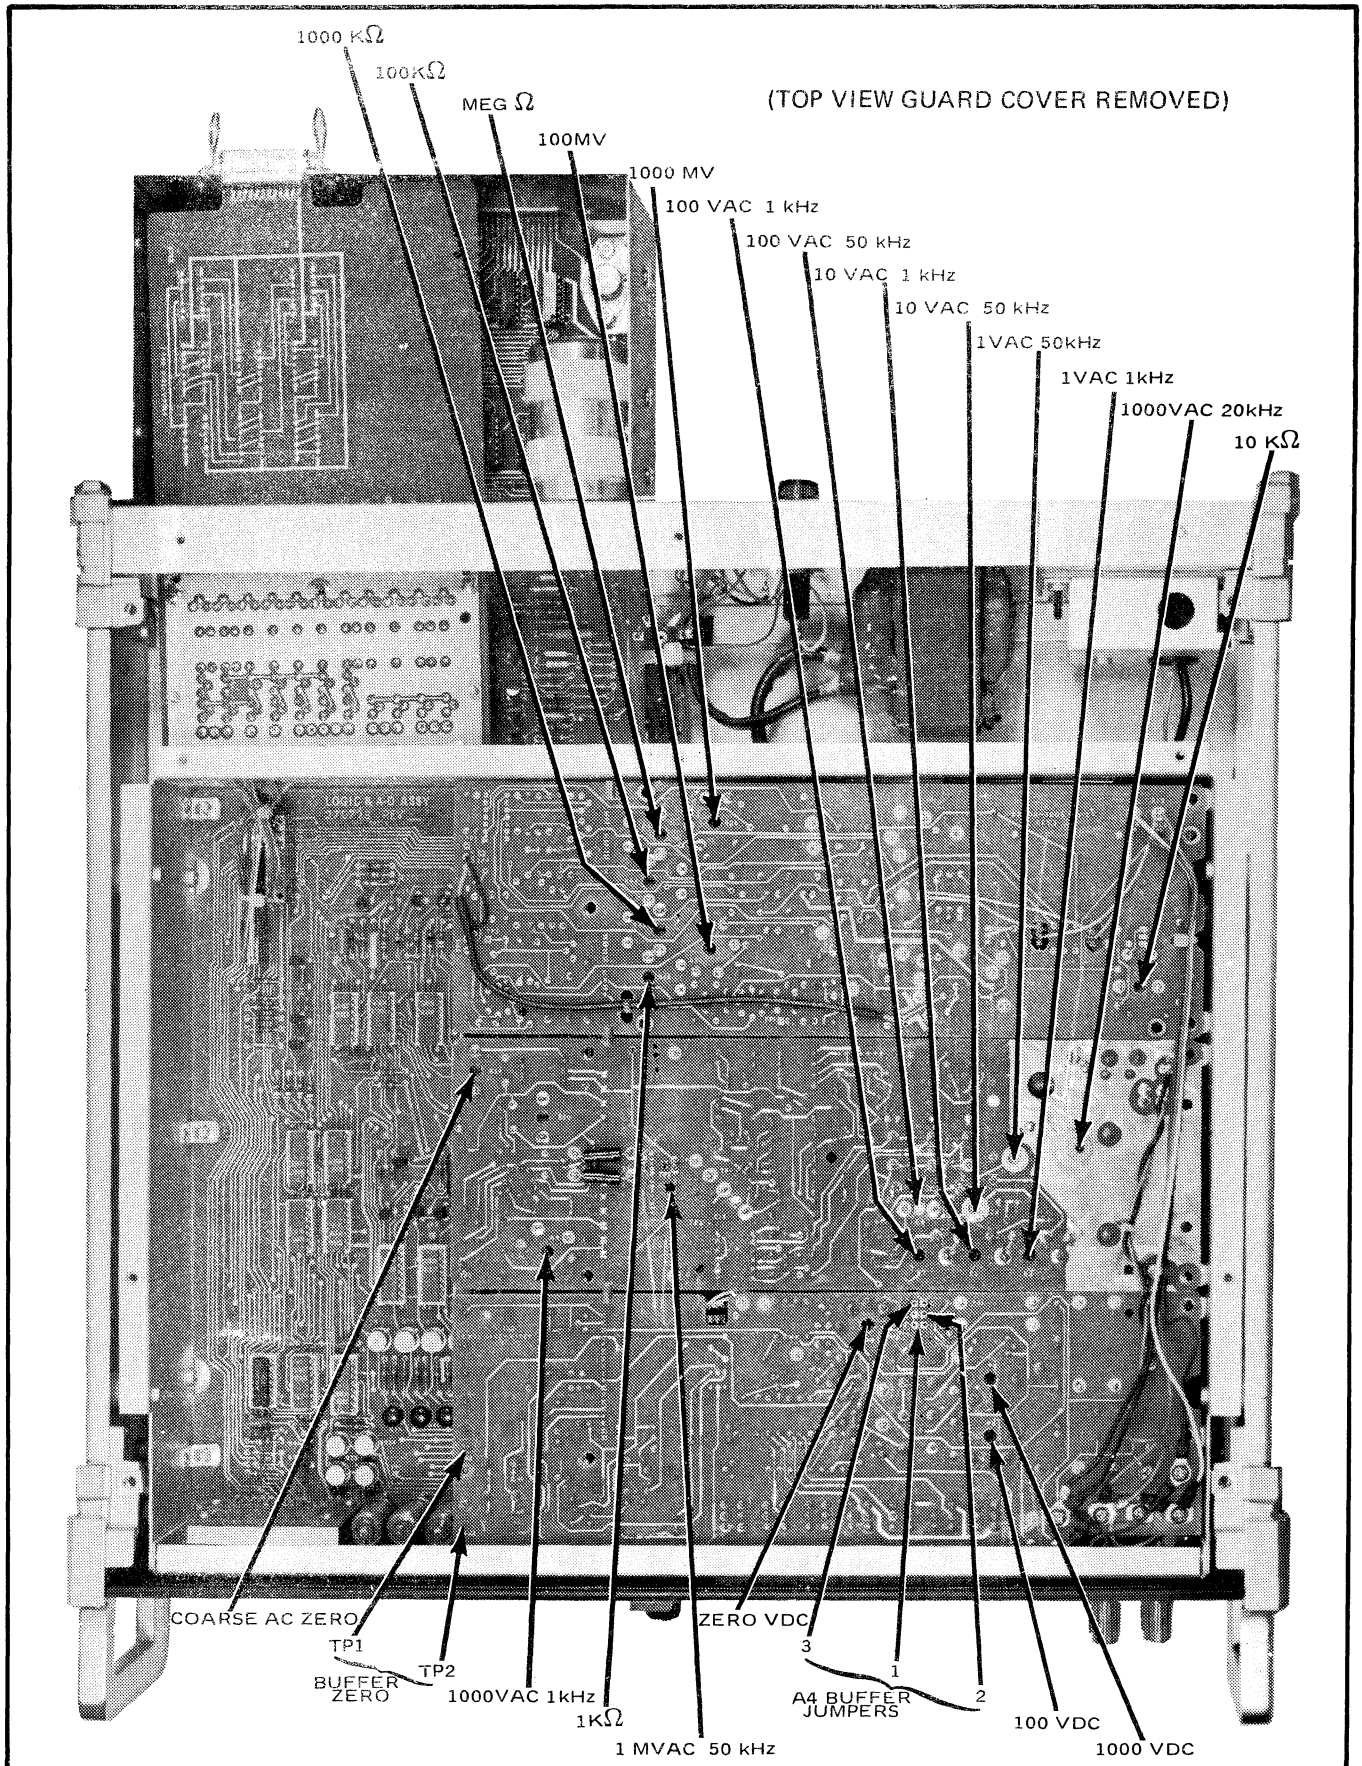

Figure 4-19. ADJUSTMENT AND TEST POINT LOCATIONS
3. Cut jumpers 1 through 3 on the A4 Buffer and set ZERO VDC (R47) fully counter-clockwise. Refer to Figure 4-19 for jumper locations.